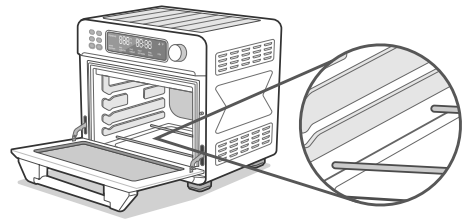

Figure 1.1
**Always** make sure the crumb tray is properly in place at the bottom of the oven when cooking. [Figure 1.1] The crumb tray is not intended to be used to place food on.